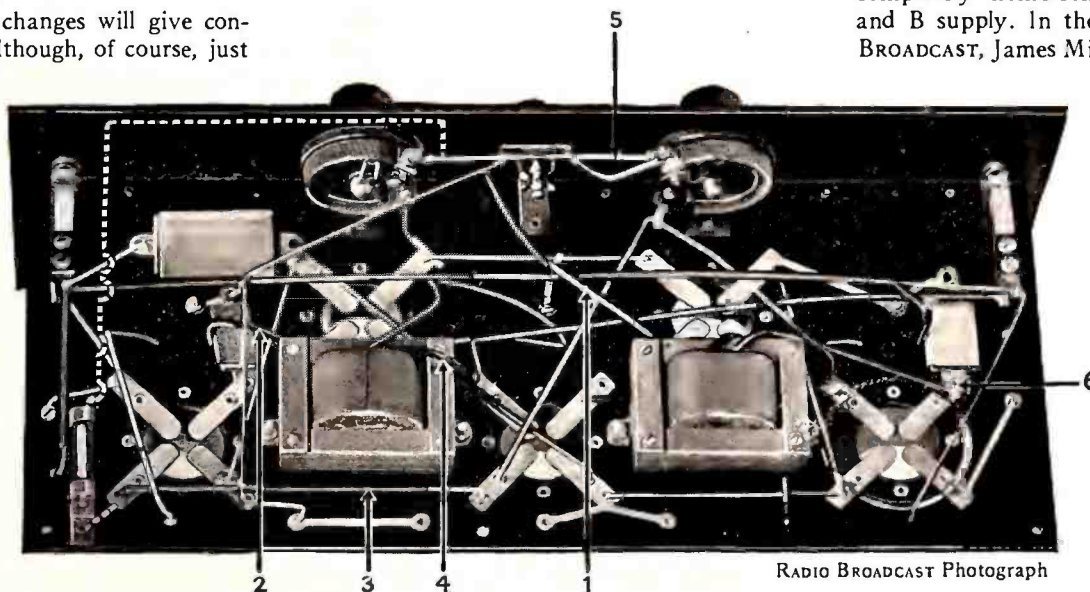
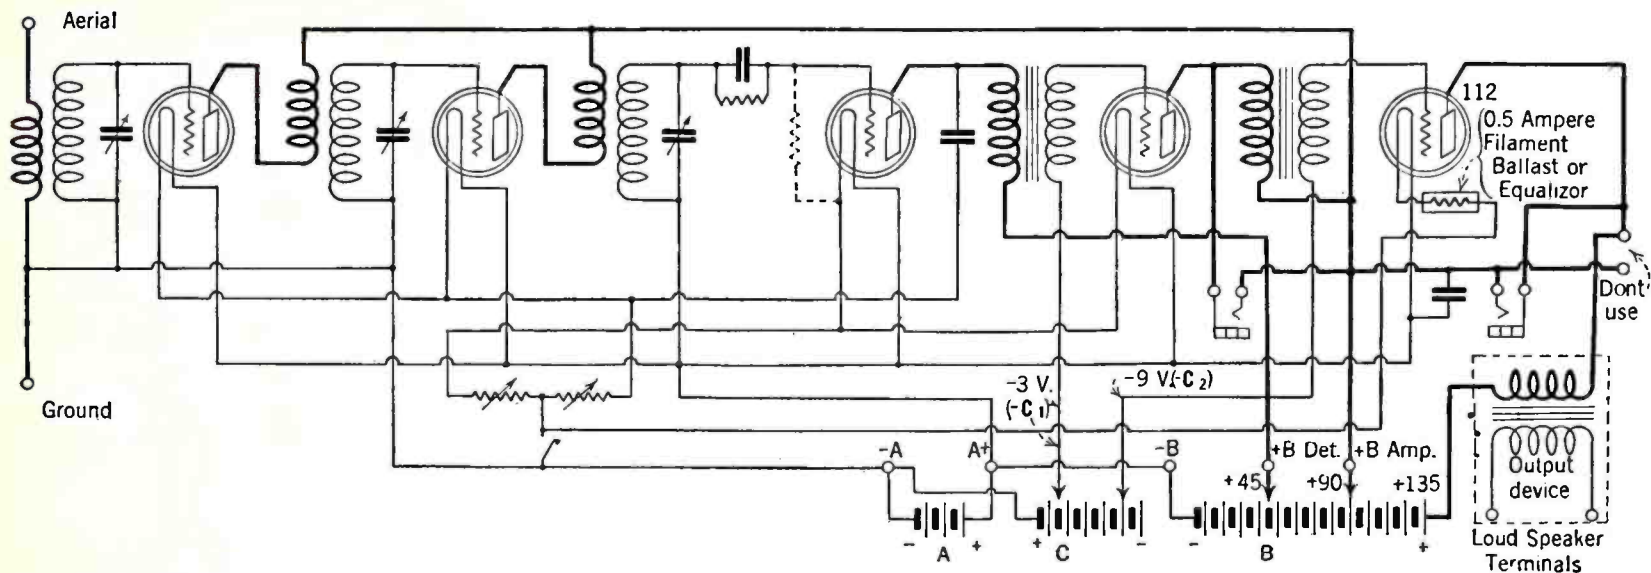

FIG. 1
FIG. 4
To install a power amplifier of the single-stage type, it is merely necessary to plug the input cord of the power amplifier into the jack marked "Phones" on the front panel of the Freshman receiver. When thus connected, the last audio stage in the set is replaced by the power amplifier. The - B, + B Det., and + B Amp. posts on the back of the power unit are connected to the corresponding posts on the receiver sub-panel. The tube should be removed from the last audio socket (left-hand rear socket) in the set. Slightly better results may often be obtained if the set is first removed from the cabinet and the wire marked 4 in Figs. 1 and 2, cut. This is the flexible lead from the plate prong of the first audio socket to the primary of the second audio transformer. The ends of the cut wire should be covered with tape in order to prevent them from touching any other bare wire or metal part, and thus causing a short-circuit.
The circuit diagram of the receiver before any changes are made. The arrows correspond to those in Fig. 1
removed from the cabinet, turn it upside down as shown in Fig. 1. The rear edge of the shelf should be supported so that the set will not rest on the coils.
The necessary changes are to add to the points numbered 5 and 6 in Figs. 1 and 2, leads of flexible rubber-covered wire. These two leads should be left several feet long since they must make connection to the power amplifier.
1. The grid return lead from the secondary of the first audio transformer should be cut at the point indicated by arrow No. 1 in Figs. 1 and 2 and a flexible lead soldered to this terminal of the transformer. This lead will supply C battery to the first stage and it is indicated as -C₁ in Figs. 4 and 5.
2. The grid return lead from the secondary of the second audio transformer should be cut at the point indicated by the arrow No. 2, and a flexible lead also soldered to this transformer terminal. This lead supplies C battery to the power tube. It is marked -C₂ in Figs. 4 and 5.
3. Completely remove the lead marked No. 3 in Figs. 1 and 2 by cutting it free at the socket prongs to which it connects.
0.5-ampere tube) and connect as indicated by the dash lines in Fig. 1, to the wire joining the two rheostats.
The B and C batteries shown in Fig. 4, are of correct value when the last, or power tube is of the 112 type and the other tubes are of the 201-A type. While the 112 is not capable of delivering to the loud speaker anything like the same amount of undistorted energy as the 171 power tube, it is to be recommended in preference to the 171 where B batteries are employed as the source of plate potential. The 171 requires a heavier plate current than the 112 and as a result is not so economical when operated from dry B batteries.
The new detector tubes, such as the 200-A type, the CeCo H, etc., will be found very advantageous in a number of cases. On signals of normal strength no difference is noticeable in volume when using one type or the other, but these new detector tubes are more sensitive to weak signals than the 201-A tubes and, as a result, will permit the reception of signals too weak to be understandable with the 201-A. The only change necessary in order to use one of the special detector tubes in the old model Freshman receiver is to increase the detector plate voltage and change the grid leak connection. By referring to Fig 4 the grid leak can be seen in its usual place, while the location of the leak when using a new detector is indicated in dotted lines. The easiest method of making this change is to purchase a grid leak and mount and fasten it to the sub-panel near the detector socket. One end connects to the grid and the other end connects to the negative filament terminal of the detector socket. The optimum plate voltage for a